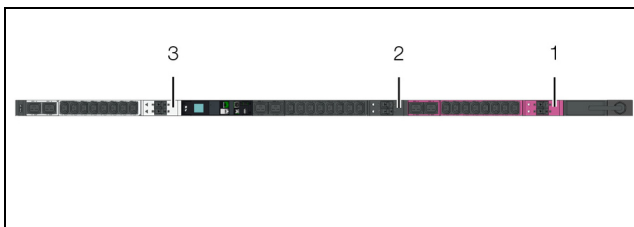

Fig. 78: Colour coding of individual phases and slots
The assignment of the slots to the individual phases is marked with different colours on the front of the PDU (fig. 78).
- Phase 1 (L1): pink (fig. 78, item 1)
- Phase 2 (L2): black (fig. 78, item. 2)
- Phase 3 (L3): white (fig. 78, item 3)